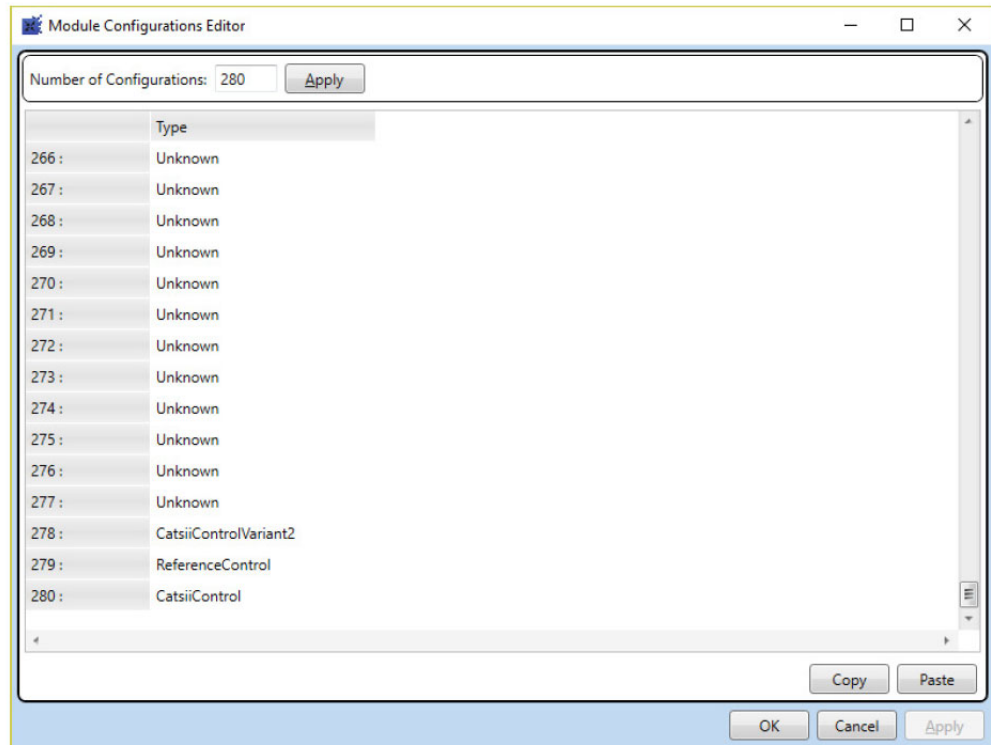

Figure 51 WorkBench Module Configuration Editor - Module 278, CatsiiControlVariant2
6. Select **CatsiiControlVariant2** in the drop-down menu. (See Figure 51.)